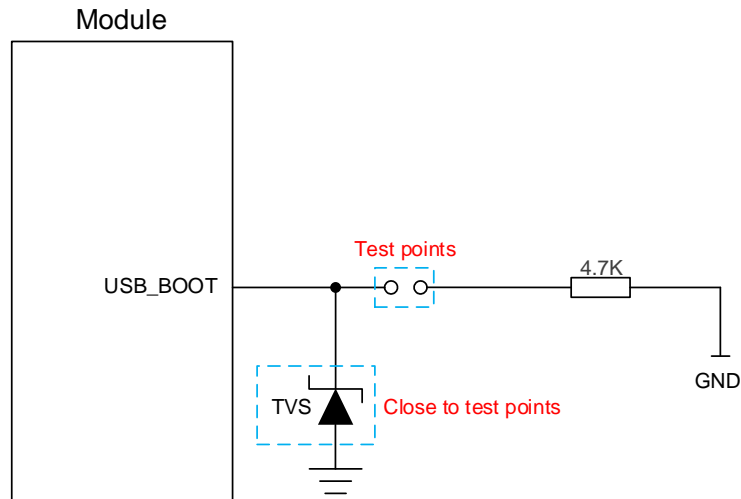

Figure 18: Reference Design of USB_BOOT Interface
2. When using MCU to put the module to forced download mode, follow the above timing. If you need to manually force the module to enter forced download mode, connect the test points as shown in **Figure 18**.